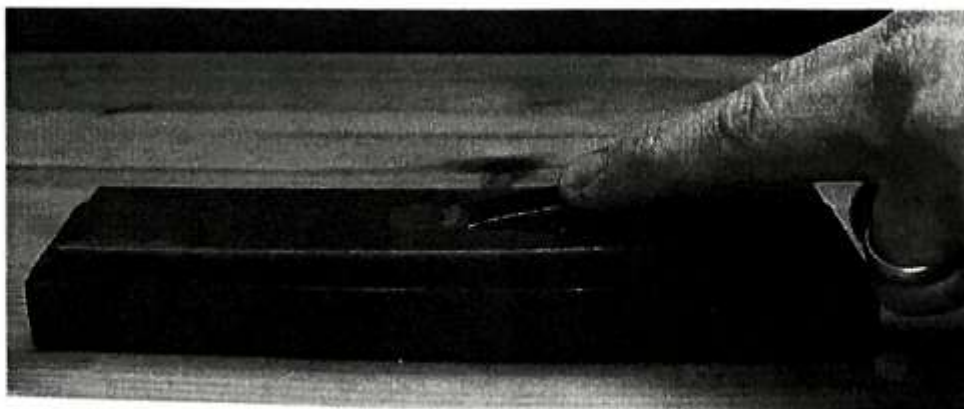

Fig 12.9 Working along the benchstone with a chisel; the stone is orientated on the bench end-on to the user
- Flat chisels are presented in line (end-on) with the stone (Fig 12.9).